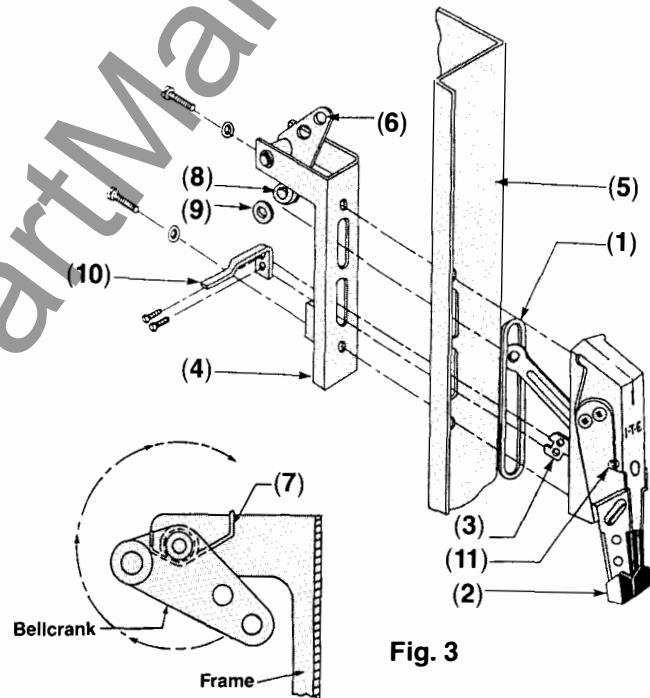

Fig. 3
- Rotate the bellcrank (6) clockwise to engage the return spring (7). Hold the bellcrank in position and place the plastic washer and connecting link onto the bellcrank pin (8). Using pliers, secure the connection with an E-ring (9). See Figure 3.
- Mount the interlock lever extension (10) to the interlock lever (3) using two #6-32 x 3/8" machine screws lockwashers. Screws mount through the threaded lever extension into the lever. See Figure 3.